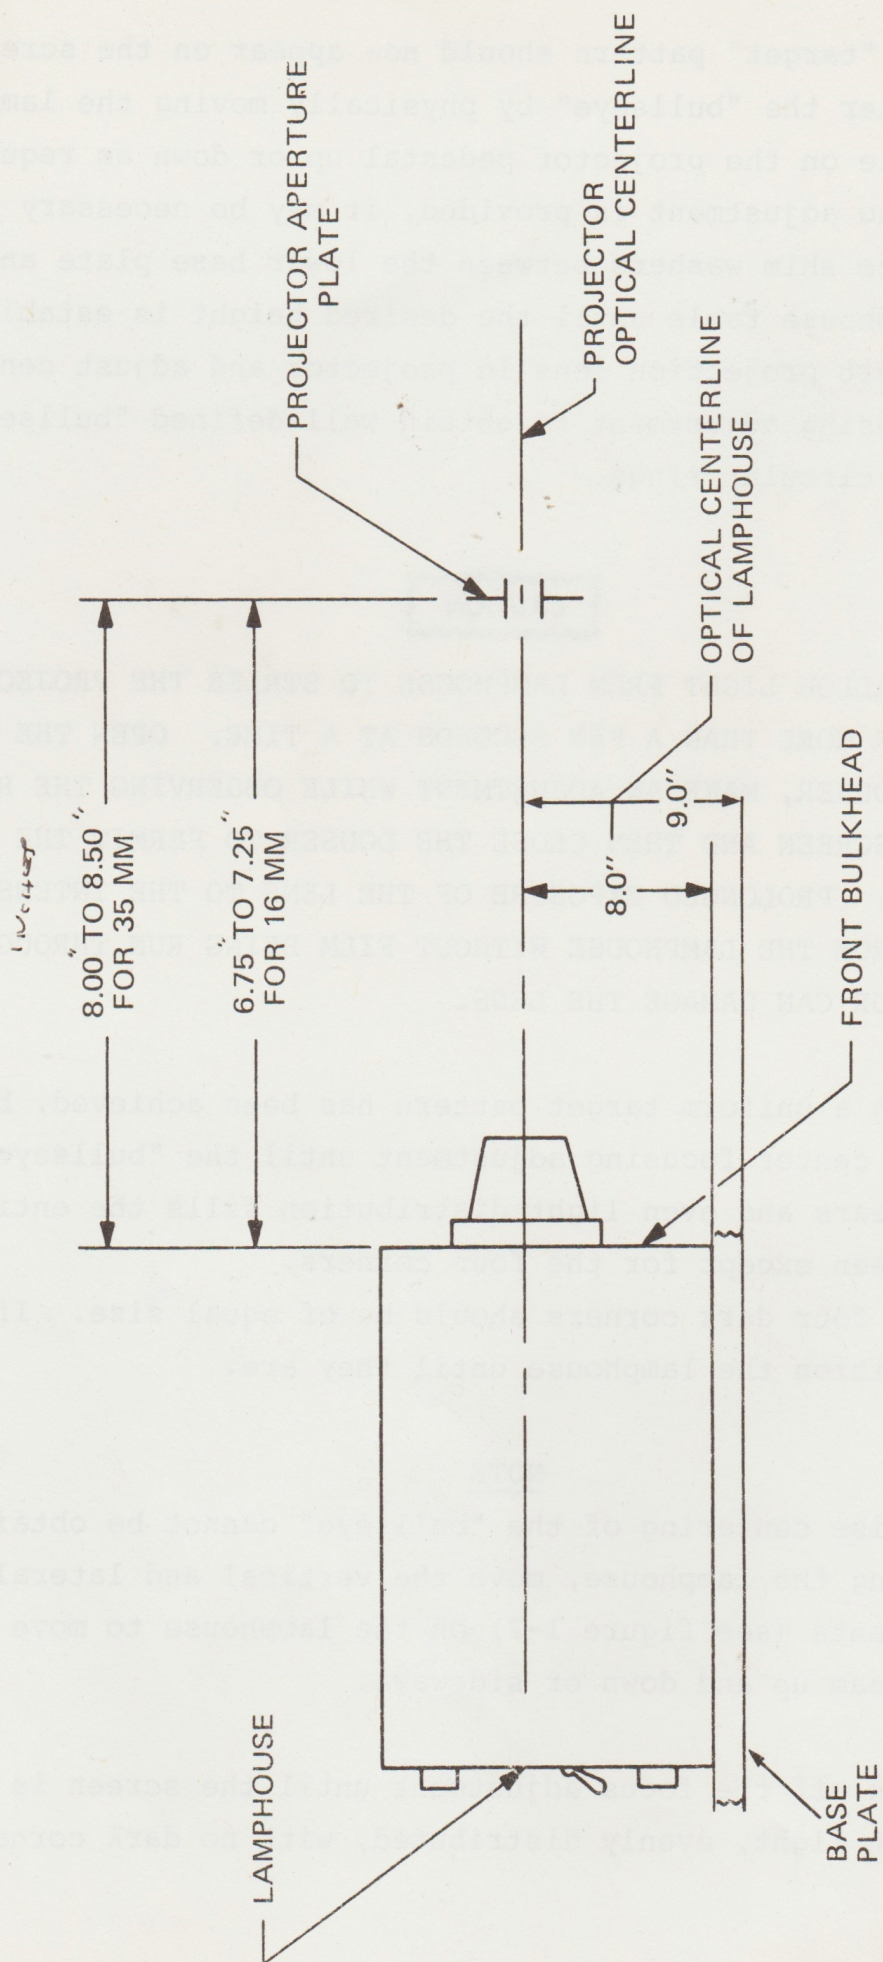

Figure 4-2. Lamphouse/Projector Alignment
- d. Close the lamphouse douser and swing the lamp into its normal operating position on the projector pedestal with the front bulkhead of the lamphouse approximately 8 to 8½ inches from the aperture plate of the projector (16mm is 6 3/4 to 7¼ inches) (see figure 4-2).